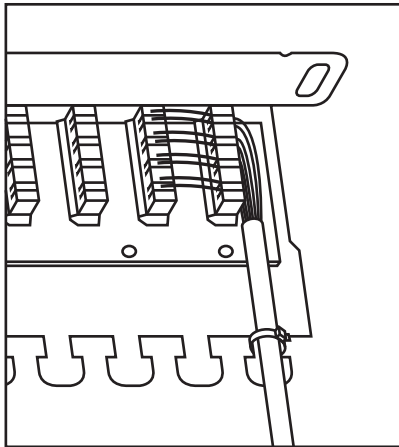

Figure 4. Arranging the wires.
4. Arrange installation wires according to your color code. The IDC blocks support T568A or T568B. See Figure 4.